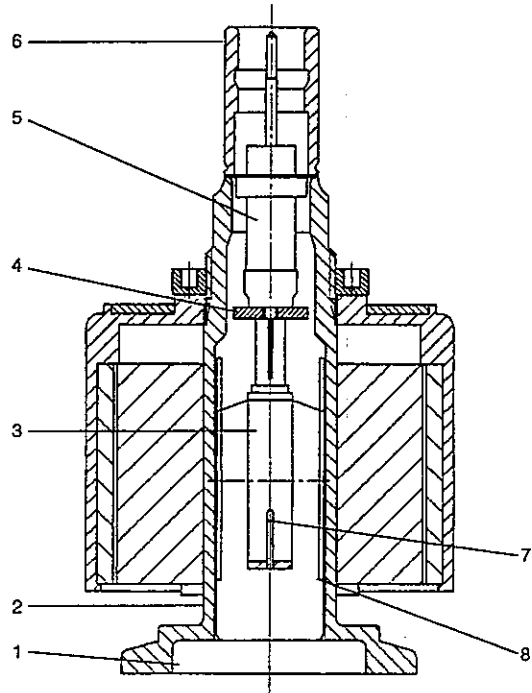

Fig. 3 Sectional view of the PENNINGVAC gauge head PR 25
The position of the disk is shown in Fig. 3.
**Key to Fig. 3**